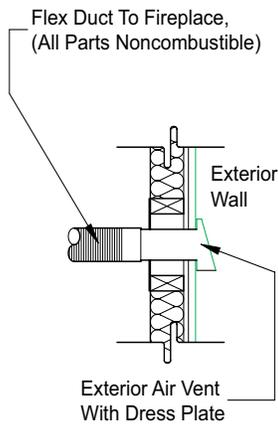

FIGURE 20
1. **Combustion Air Inlet:** Combustion air inlet kits though not required by Earthcore may help improve fireplace operation in homes tightly sealed and with other ventilating appliances installed (Figures 20 & 21). **Check local codes for combustion air inlet requirements.**
Generic fireplace combustion air kits typically consist of a sliding stainless steel access door affixed to a three inch (3") or four inch (4") diameter stainless steel sleeve approximately twelve inches (12") long. An exterior vent with dress plate, weather hood and rodent prevention screen of a maximum one-quarter inch (1/4") wire mesh completes the kit. (Figure 20)